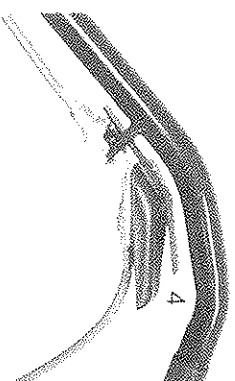

Fig.6
- Spray operating lever** - Controls the cleaning solution spray (Fig.6).